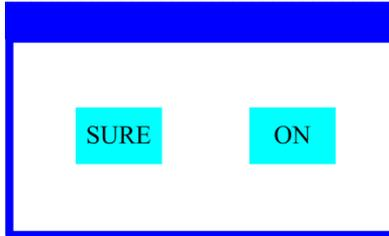

Figure 3 Dialog of confirm
- When the parameter is a key item, chick corresponding item, a dialog shown in Figure 3 will be popup ask for the confirm. Chick 'sure' to confirm.